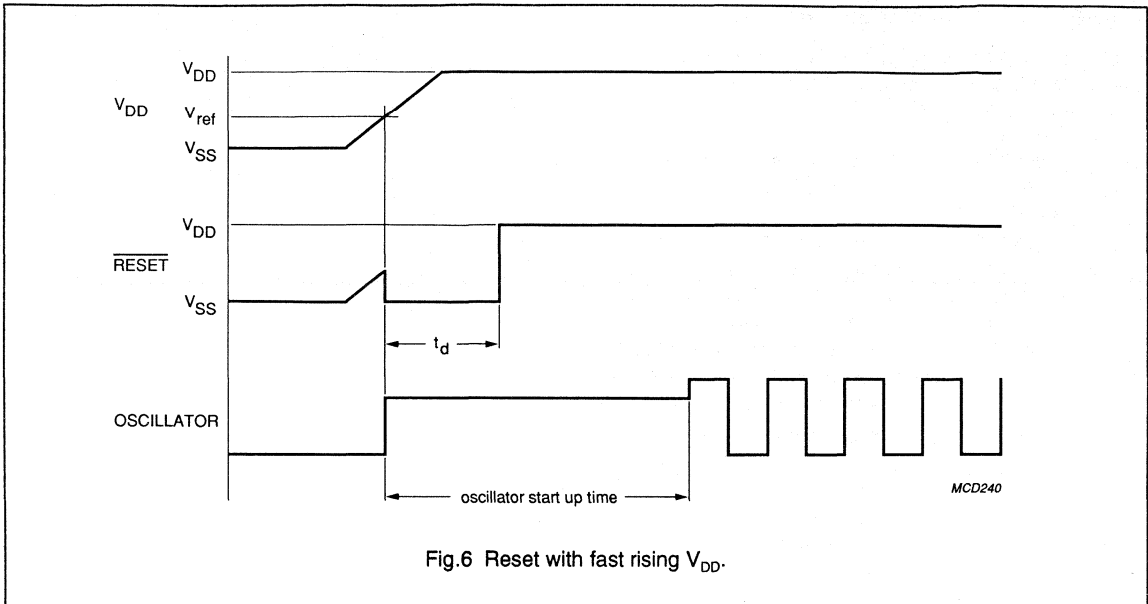

Fig.6 Reset with fast rising V_{DD}.
2. If V_{DD} rises above the minimum operation voltage before time period t_d is exceeded, no external components are necessary, (See Fig 6).